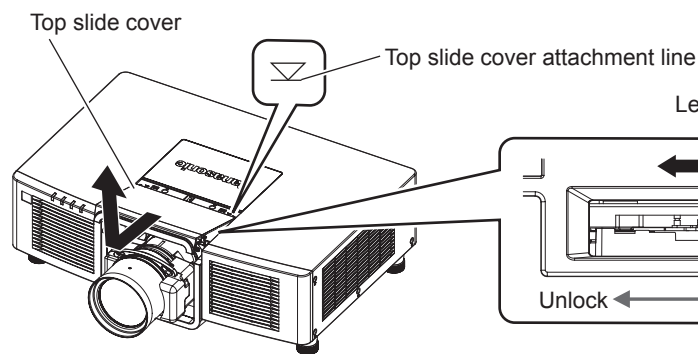

Fig. 2
2) Remove the top slide cover. (Fig. 2)
- 7) **Attach the top slide cover. (Fig. 2)**
- 2) **Remove the top slide cover. (Fig. 2)**
- 5) **Attach the top slide cover. (Fig. 2)**